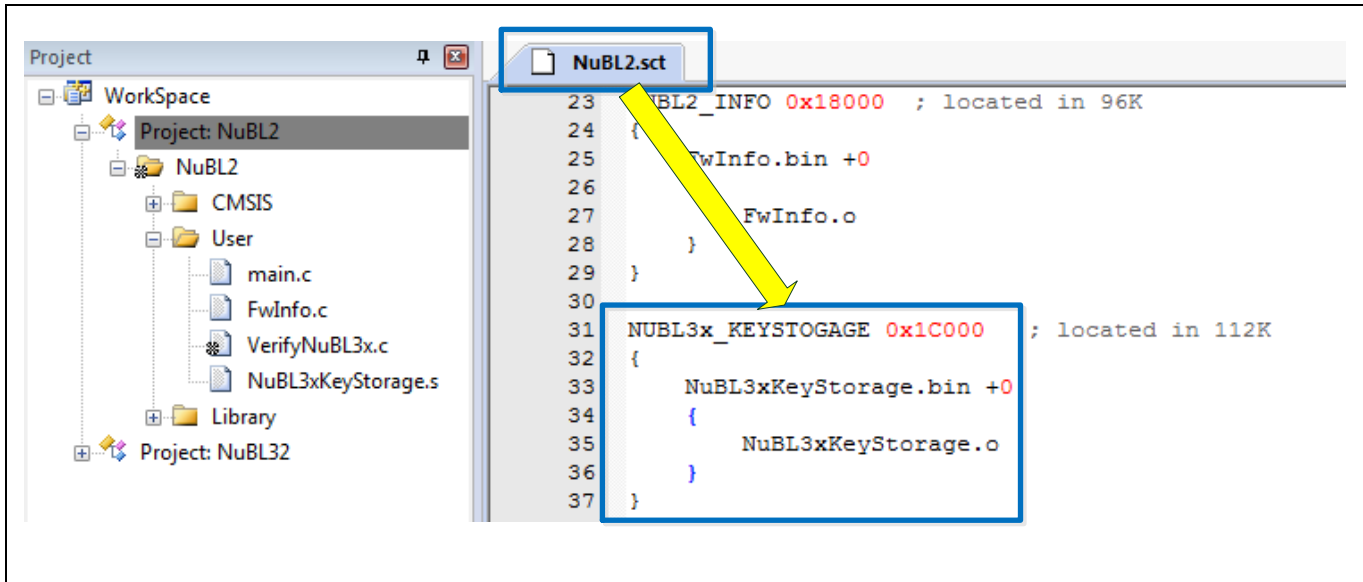

Figure 5-21 Allocate NuBL32 Key Storage Region
2. Modify NuBL2.sct to allocate the key storage region at 0x1C000 as shown in Figure 5-21.